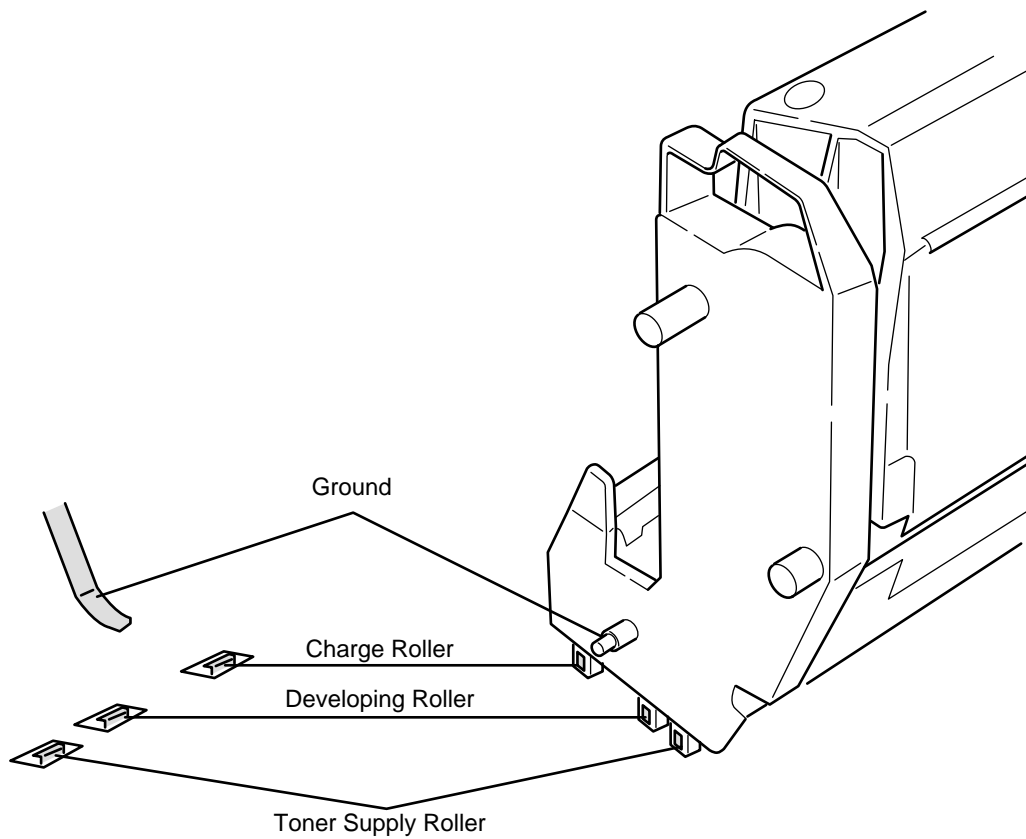

Figure 5.3
- ▼ NO Is the I/D terminal connected to the contact assembly properly? (See Fig. 5-3)